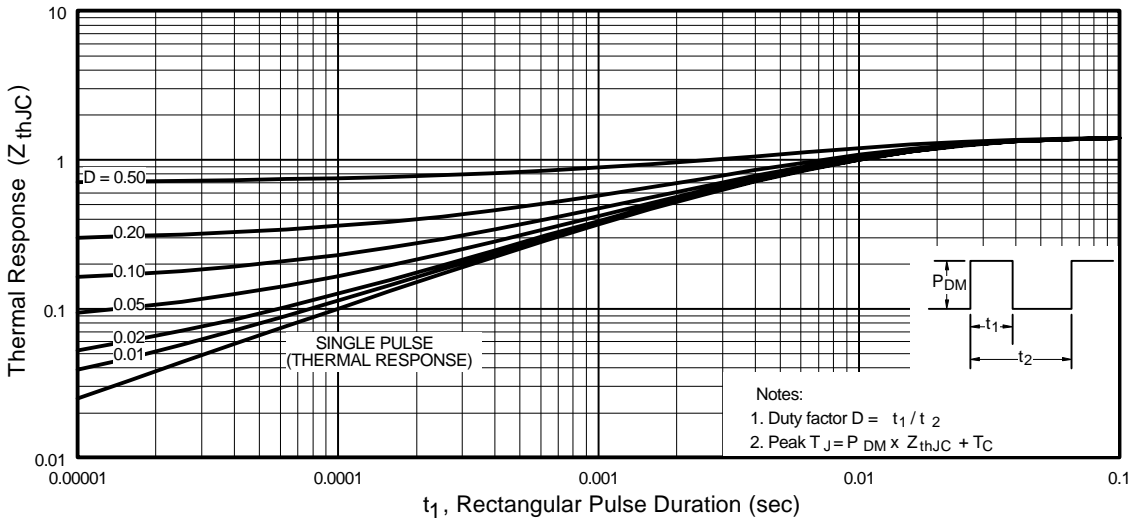

Fig 11. Maximum Effective Transient Thermal Impedance, Junction-to-Case
- ① Repetitive rating; pulse width limited by max. junction temperature. (See Fig. 11)
- ② V_{DD} = -25V, starting T_J = 25°C, L = 2.1mH